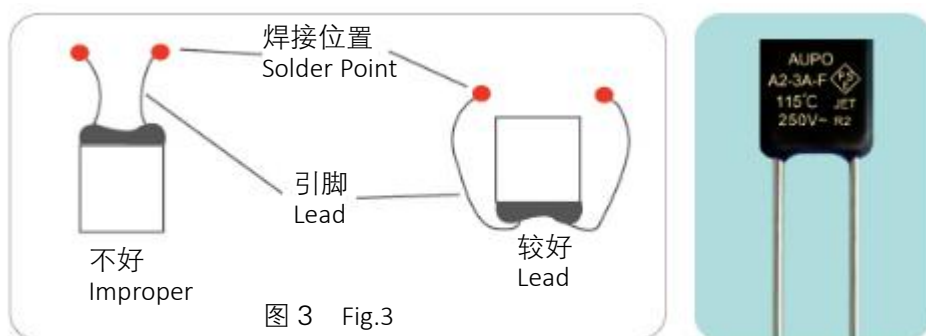

图 3 Fig.3
- 尽可能利用长一些的引脚，长一些的引脚允许较长的焊接时间及减少过热的可能性（见图 3）为如何在较小的位置保留长一些的引脚例子。在引脚较短的情况下，在焊接时要用尖嘴钳或其他工具夹在引脚上焊点和保险丝体之间位置上以散热，避免焊接量传入温度保险丝内部。同时焊接温度应控制不要过高，焊接时间尽可能短。
- Using the lead wires as long as possible when soldering, longer leads permit a longer soldering time and reduce the possibility of overheating. Fig.3 is an example of how to keep longer lead wires when a thermal cutoff is installed in a small space. It is recommended that using a heat sink between the soldering point and sealant to minimized the heat transmission to thermal cutoff. Avoid the soldering temperature is too high and keep the soldering time as short as possible.